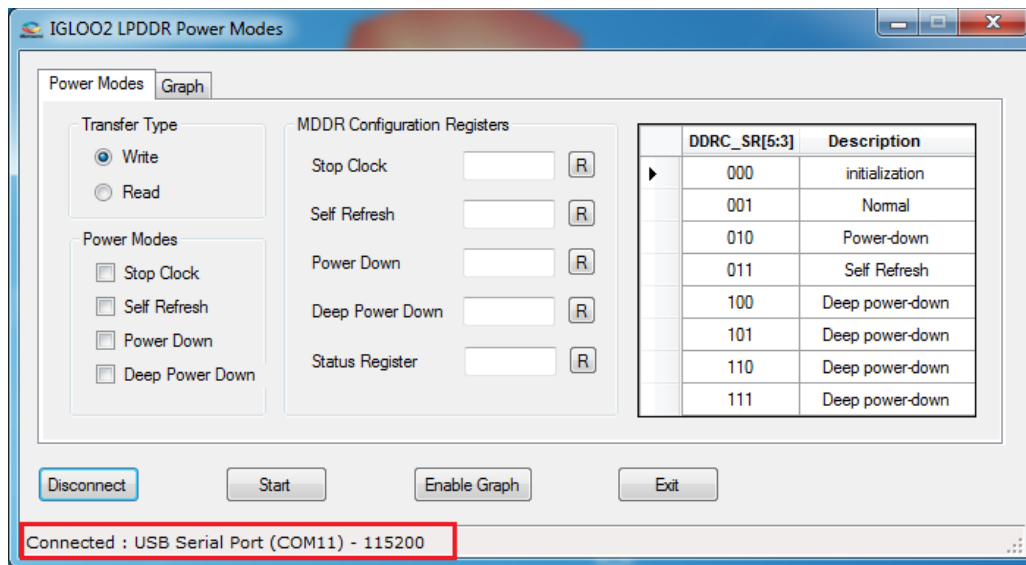

Figure 17 • IGLOO2 LPDDR Power Modes Connection Status
6. Click **Connect** and wait until it connects to the FDTI COM port. The connection status along with the COM port and baud rate is displayed in the left bottom corner of the window. Figure 17 shows the connection status and baud rate.